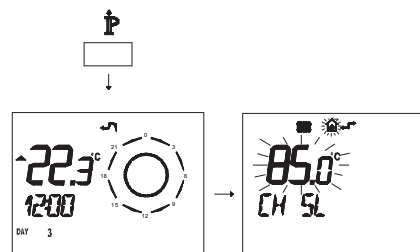

Figure 15.31
- Press the button **P** for more than 3 seconds to enter the mode **INFO** (Figure 15.31).